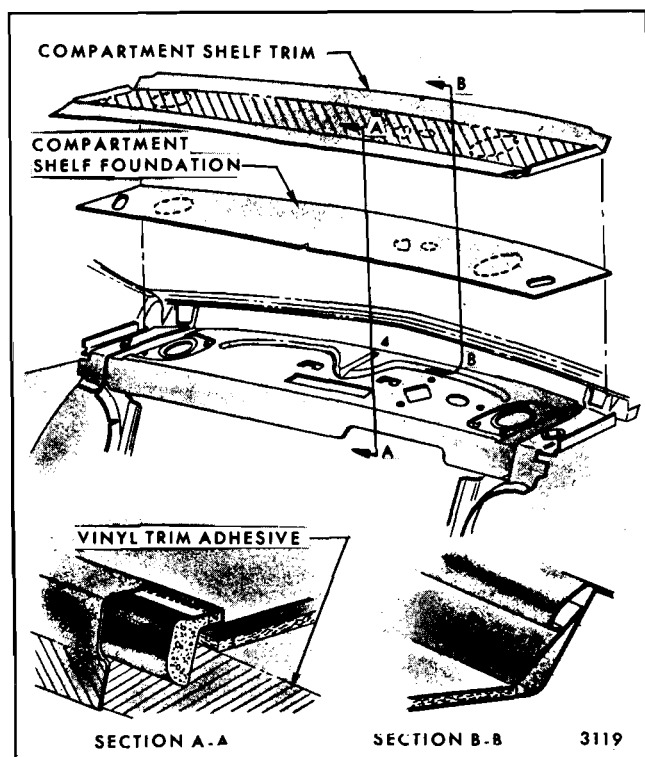

Fig. 14-40—Compartment Shelf Trim Panel - Typical
4. Carefully break cement bond at compartment shelf trim panel valance to front of metal shelf panel as shown in Figure 14-40.
5. Carefully break cement bond at compartment shelf trim panel valance and front of metal shelf panel as shown in Figure 14-40.